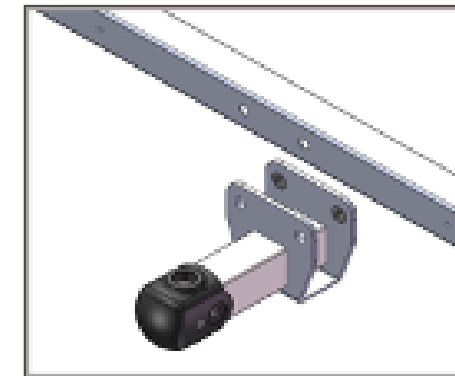

Figure 30
3. Locate the stroller wheel mounting holes in the center of the front frame tube (Fig. 30).
4. Slide wheel bracket over the frame as shown in Fig 30.